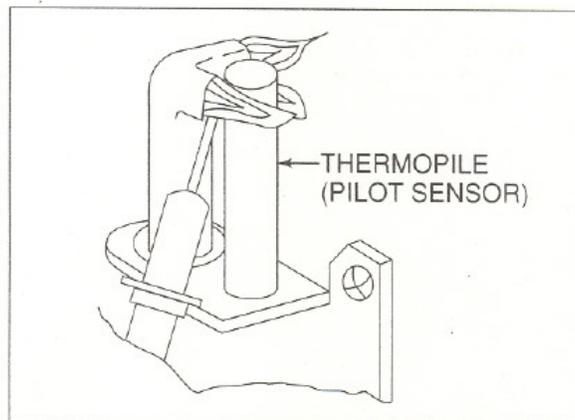

Figure 12B
- Adjust the pilot key to provide properly sized flame. (See Figure 12B for proper flame appearance.)